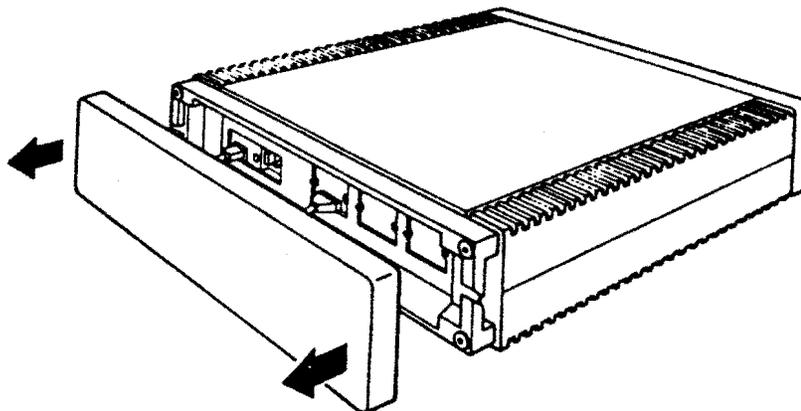

Figure 4-1: Rear Cover Removal
3. Remove the system unit rear cover, by grasping each end and pulling the cover toward you (Figure 4-1).